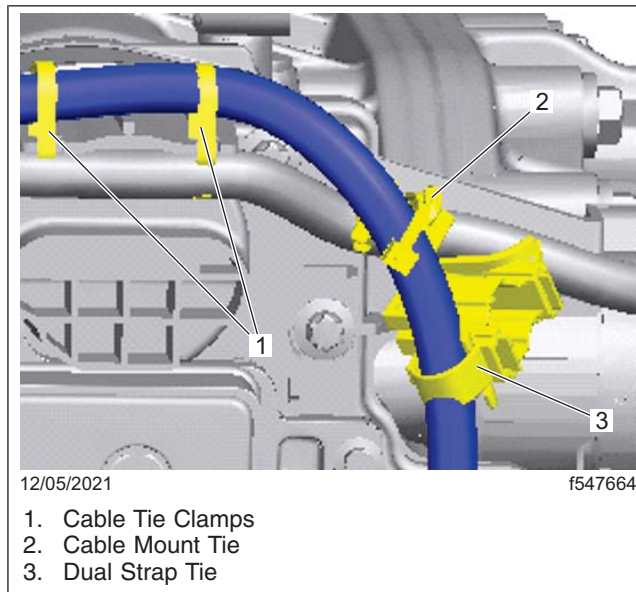

Fig. 7, Installing Cable
7.5 Install all the ties at the top of the shift controller, as shown in Fig. 7.